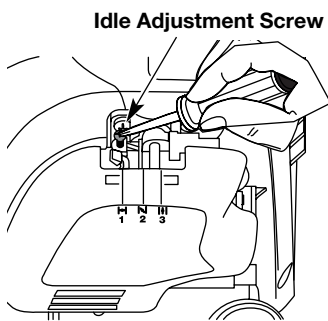

Fig. 51
The idle speed of the engine is adjustable. An idle adjustment screw is between the air filter cover and the engine starter housing (Fig. 51).
2. Release the throttle trigger and let the engine idle. If the engine stops, insert a small phillips in between the Air Filter Cover and the Engine Cover (Fig. 51). Turn the idle speed screw in, **clockwise**, 1/8 of a turn at a time (as needed) until the engine idles smoothly.